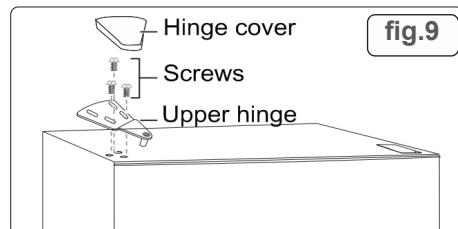

fig.9
11. Remove the hole cover from the top left side of the cabinet and install it on the top right side. (fig.9).